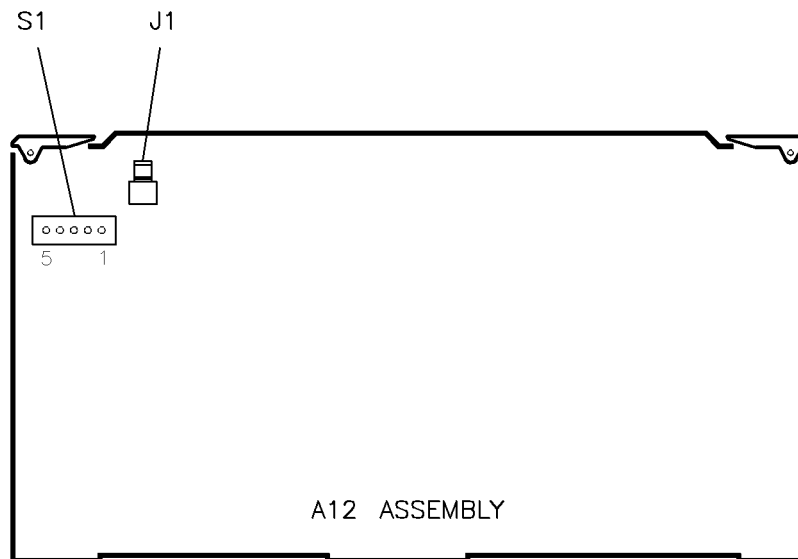

Figure 3-42. A12S1 Location
1. Set A12S1 (shown in Figure 3-42) for the required volts/GHz scale according to the following table: